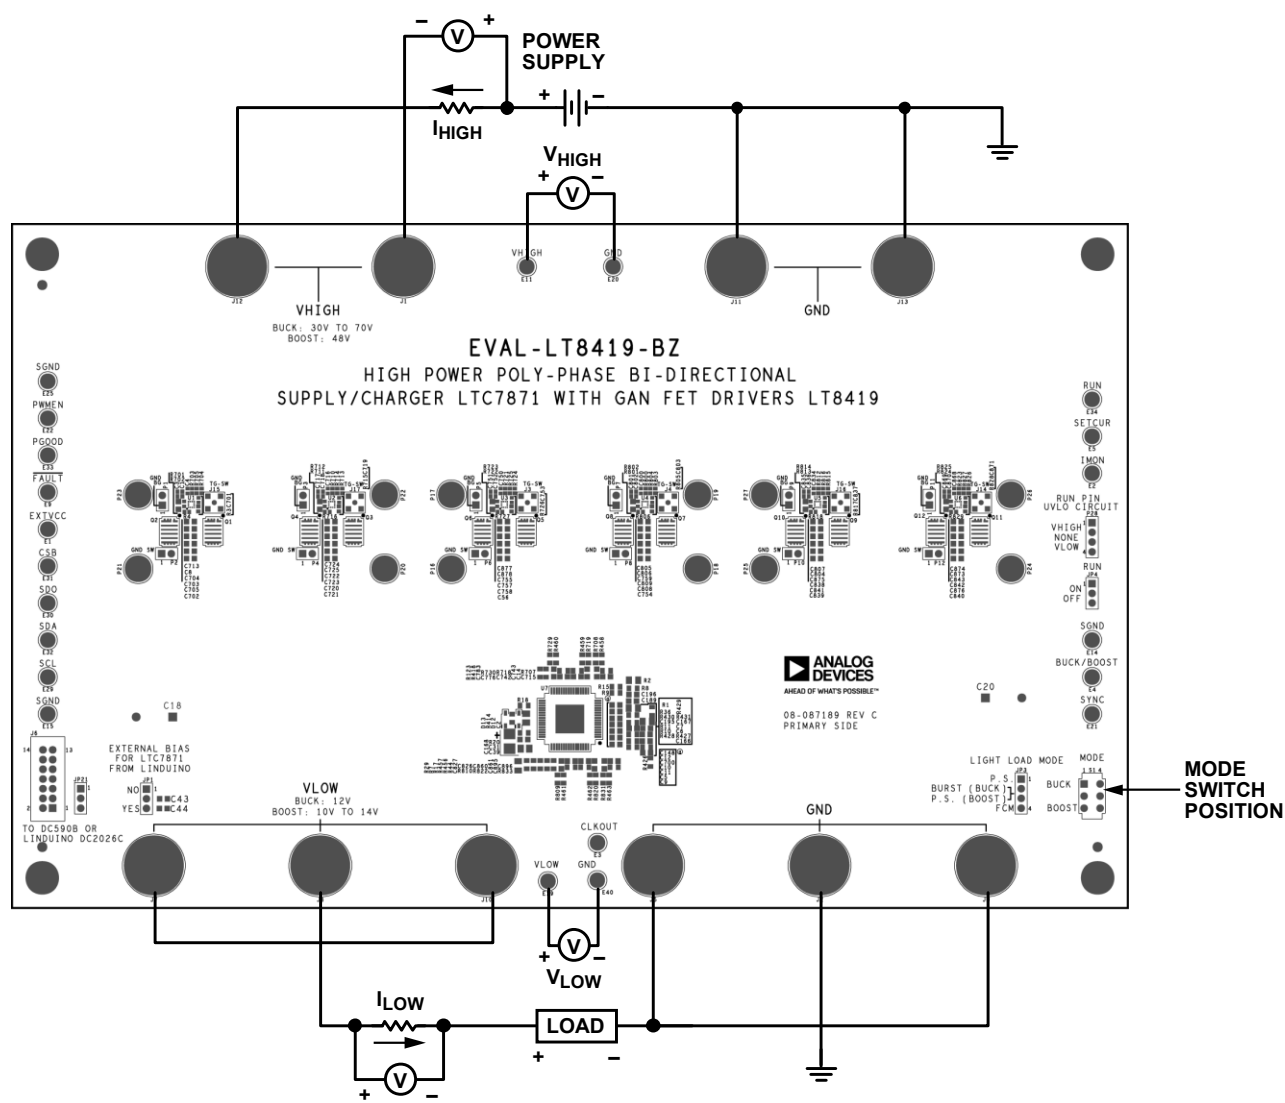
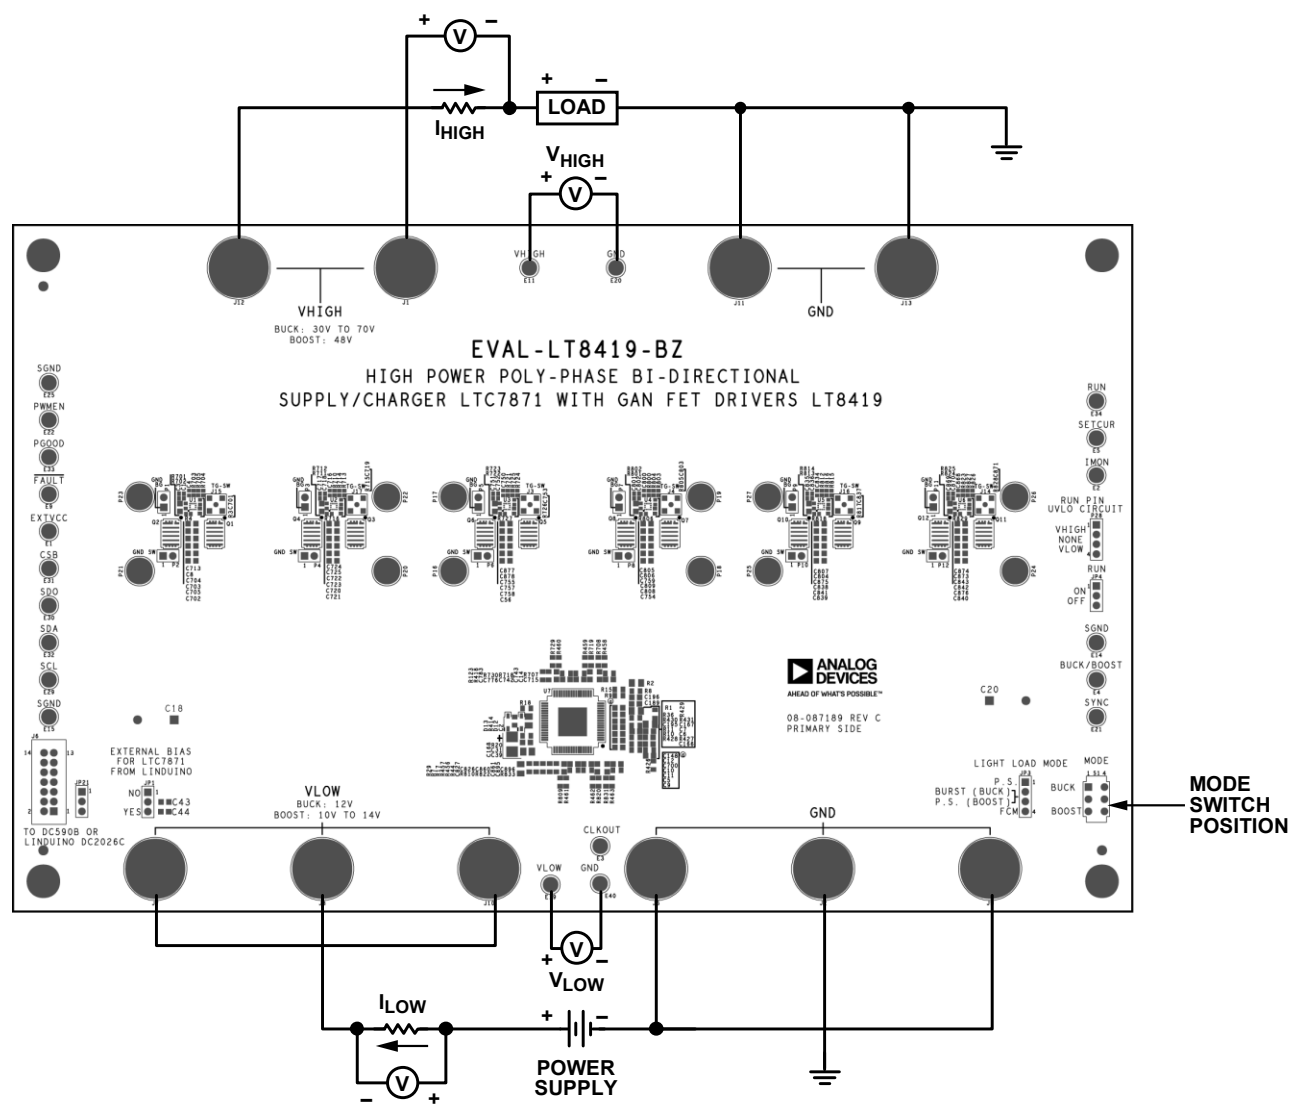

Figure 1. Proper Measurement Equipment Setup for Buck Mode
Figure 2. Proper Measurement Equipment Setup for Boost Mode
1. See the connection diagram shown in Figure 1.
1. See the connection diagram in Figure 2.
9. For buck operation, set up the EVAL-LT8419-BZ as shown in Figure 1. For boost operation, set up the EVAL-LT8419-BZ as shown in Figure 2. The load needs to have a constant voltage mode.